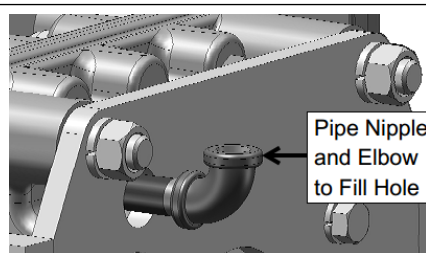
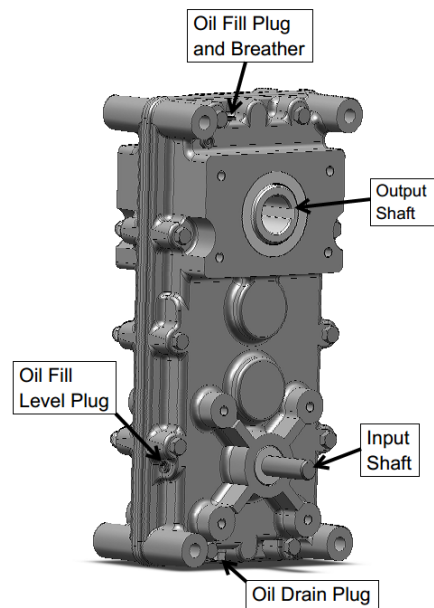

Fig. 5C
Fig. 5B
Lubrication: See Figure 5B. This drive tractor uses a TC/American enclosed gearbox. There are no exposed chains, sprockets or bearings. The oil fill plug, level plug and drain plug are as shown in Figure 5B. The drivetractor assembly has a pipe nipple and elbow installed at the fill plug, as shown in Figure 5C. Trolley wheel bearings are regreaseable.
- See Figure 5B on Page 11 for location of Oil Fill Plug / Breather, Oil Fill Level Plug and Oil Drain Plug on gearbox. (Note: locations vary with gearbox orientation.)
- See Figure 5C on Page 11 – gearbox as incorporated into the tractor frame is provided with a Pipe Nipple and Elbow at the Oil Fill location.